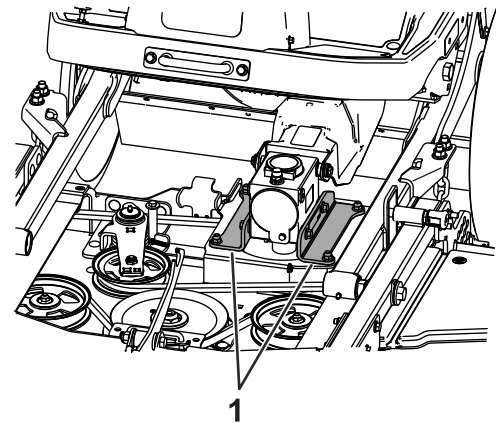

Figure 2
4. Remove the existing gearbox brackets (Figure 2).